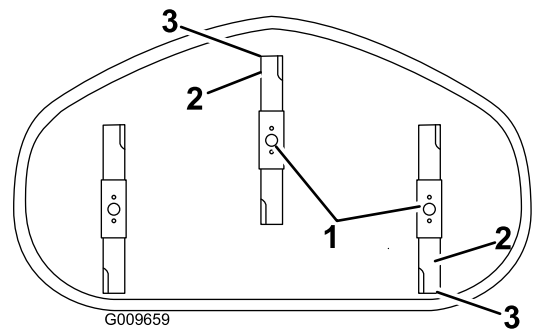

Figure 53
4. Carefully rotate the blades so they are facing front to rear (Figure 53).
5. Measure from the tip of the front blade to the flat surface and the tip of the rear blade to the flat surface (Figure 53). If the front blade tip is not 1.6 to 7.9 mm (1/16 to 5/16 inch) lower than the rear blade tip, adjust the front locknut.
8. After adjustment, check the front-to-rear slope again. Continue adjusting the nut until the front blade tip is 1/16 to 5/16 inch (1.6 to 7.9 mm) lower than the rear blade tip (Figure 53).